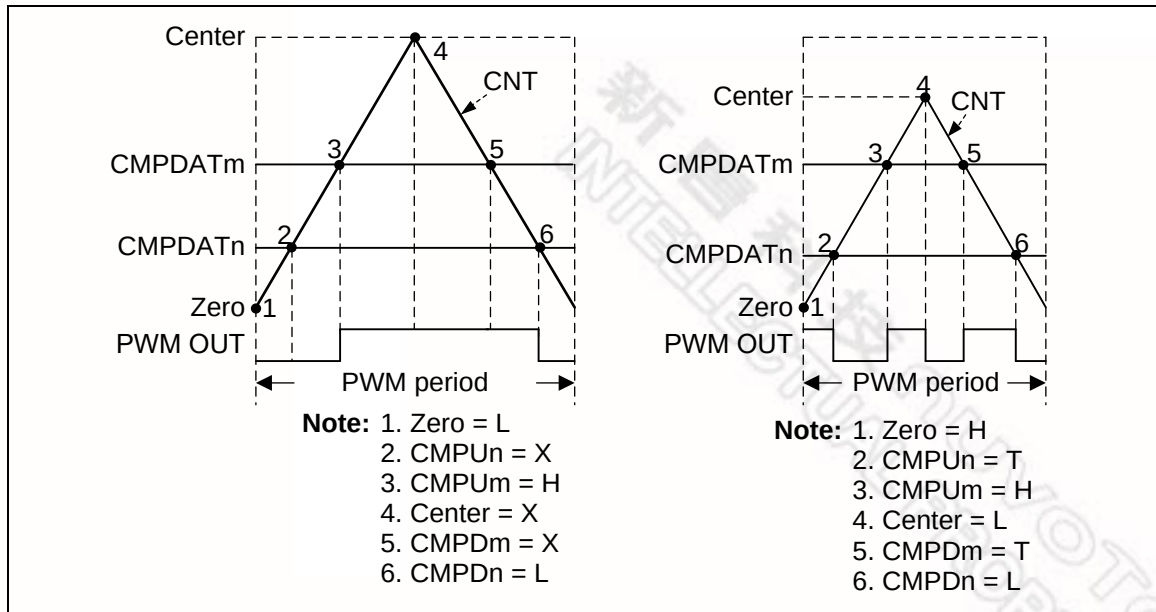

Figure 6-37 PWM Pulse Generation
Each event point can decide PWM waveform to do nothing (X), set Low (L), set High (H) or toggle (T) by setting PWM_WGCTL0 and PWM_WGCTL1 registers. Using these points can easily generate asymmetric PWM pulse or variant waveform as shown in Figure 6-37. In the figure, PWM is in Complementary mode, there are two comparators *n* and *m* to generate PWM pulse. *n* denotes even channel number 0, 2, 4, *m* denotes odd channel number 1, 3, 5. *n* and *m* channels are complementary paired. Complementary mode uses two channels (CH0 and CH1, CH2 and CH3, CH4 and CH5) as a pair of PWM outputs to generate complement paired waveforms. CMPU denotes CNT is equal to CMPDAT when counting up. CMPD denotes CNT is equal to CMPDAT when counting down.